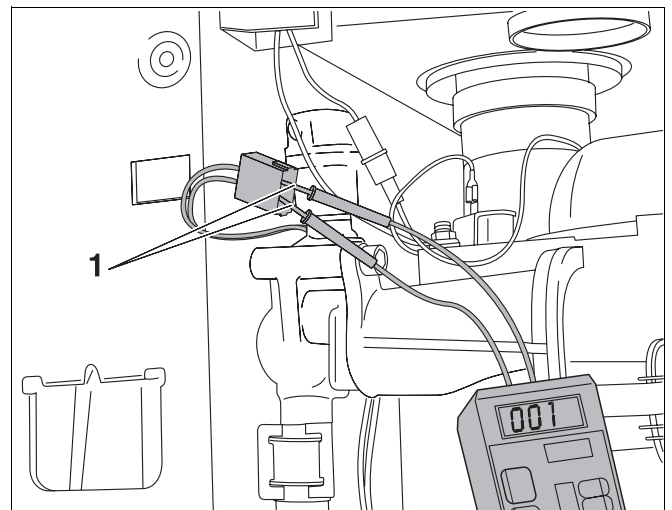

Fig. 48 Buderus 600 - 11R / 19R / 24R: checking the safety sensor
- Measure resistance of sensor (fig. 48, item 1).